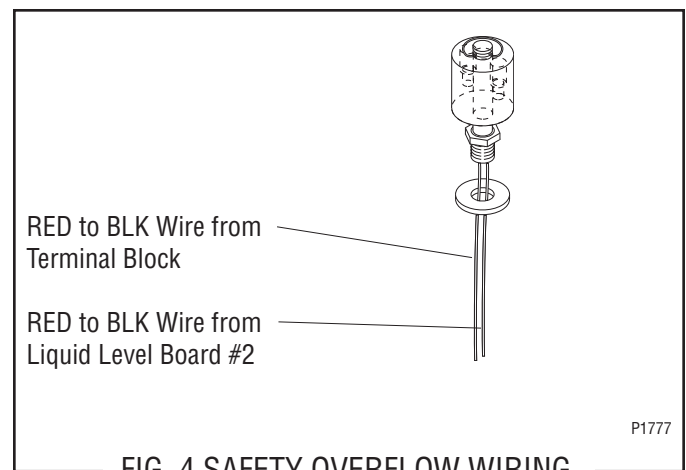

FIG. 4 SAFETY OVERFLOW WIRING
6. Reconnect the wires, FIG. 4.